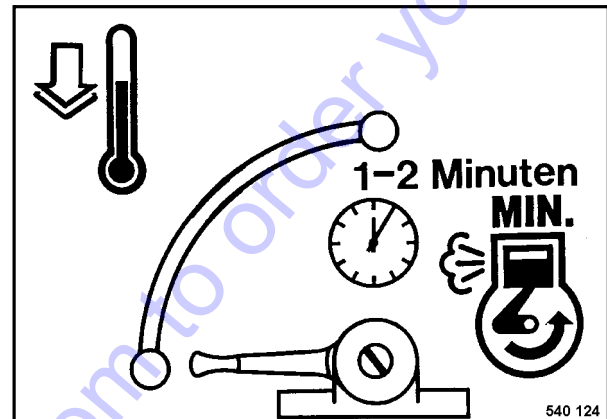

Fig. 1
- Set the throttle lever (Fig. 1) to "MIN"-position.